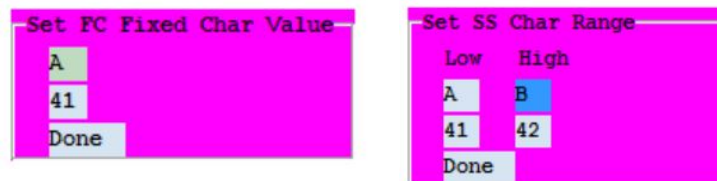

Figure 11-6: a) FC Value; b) SS Values
The FC type choice, Figure 11-6.a, only requires one value to be entered since a Fixed Character (FC) has the same upper and lower values. The Single Set (SS) type choice, Figure 11-6.b, represents a single contiguous set of any length and hence requires both lower an upper bound